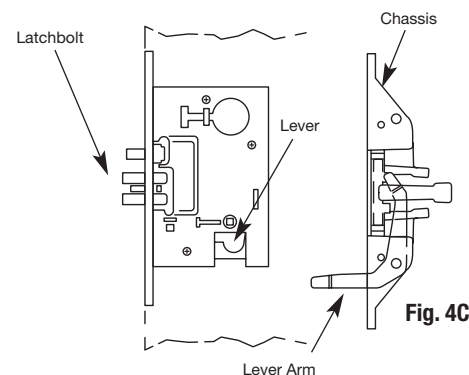

Fig. 4C
3. Position chassis and rail on door so that lever arm is under rear section of mortise lock lever then lift up until latch bolt is completely retracted. With chassis in this position and rail horizontal, mark location of chassis mounting holes (Fig. 4C). Drill holes for screws.
5. Fasten exit chassis to door using (4) #10 wood screws or #10-24 x 3/4" machine screws.
6. Using (2) 1/4-20 x 2-3/8" flat head screws, attach “ET” to chassis.